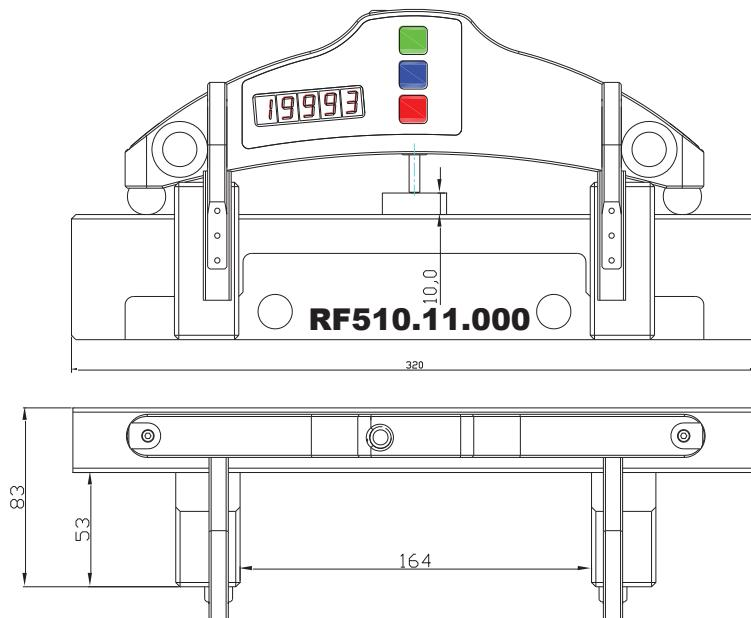

Figure 4
- Calibration plate with the deviation from flatness less than $\pm 0,5 \mu\text{m}$ for 250 mm length (or Flat block RF510.11.000, figure 4);